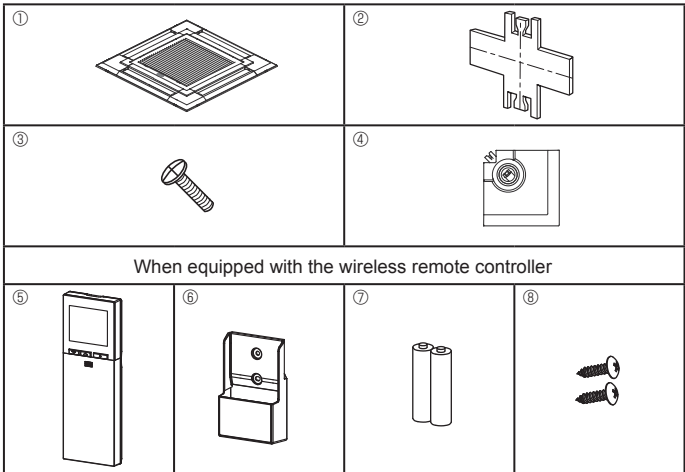

Fig. 7-1
7.1. Checking the contents (Fig. 7-1)